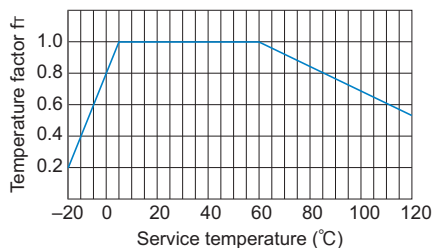

Fig.2 Temperature factor
If the temperature of the spline nut exceeds the normal temperature range, the seizure resistance of the nut and the strength of the material will decrease. Therefore, it is necessary to multiply the dynamic permissible torque (T) by the corresponding temperature factor indicated in Fig.2.
f_T : Temperature factor (see Fig.2)